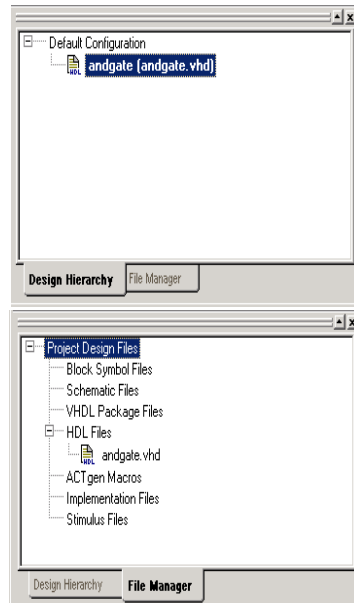

Figure 2-7. Design Hierarchy and File Manager Tabs
- From the **File** menu, click **Save**. The design file “andgate” appears in the **Design Hierarchy**. Libero IDE lists “andgate.vhd” under HDL files in the **File Manager**, as shown in Figure 2-7.